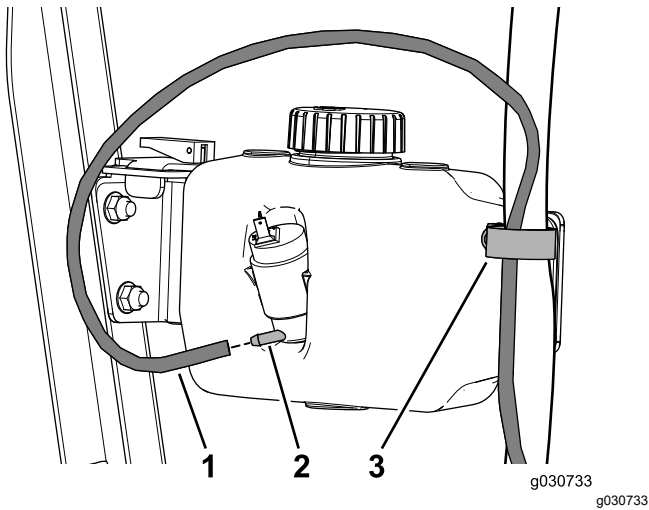

Figure 48
2. Route the washer hose through the R-clamp and connect it to the washer bottle (Figure 48).